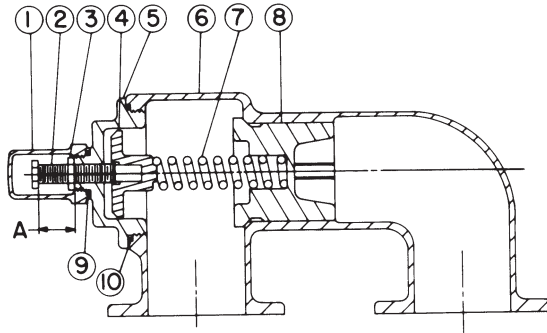

FIGURE 12
2. Measure and record length of extension of adjusting screw. Refer to "A" on Figure 12.